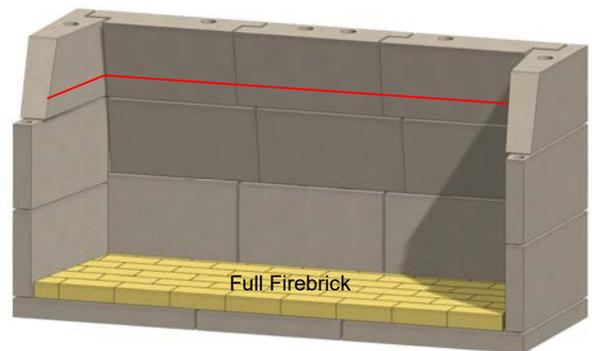

**Figure 11. Upper Sidewalls**
E. Install the slanted sidewalls (6 and 7), and the upper back plates (5A, 5B, 5C). Check the sides and the top with a level. See Figures 11 and 12.